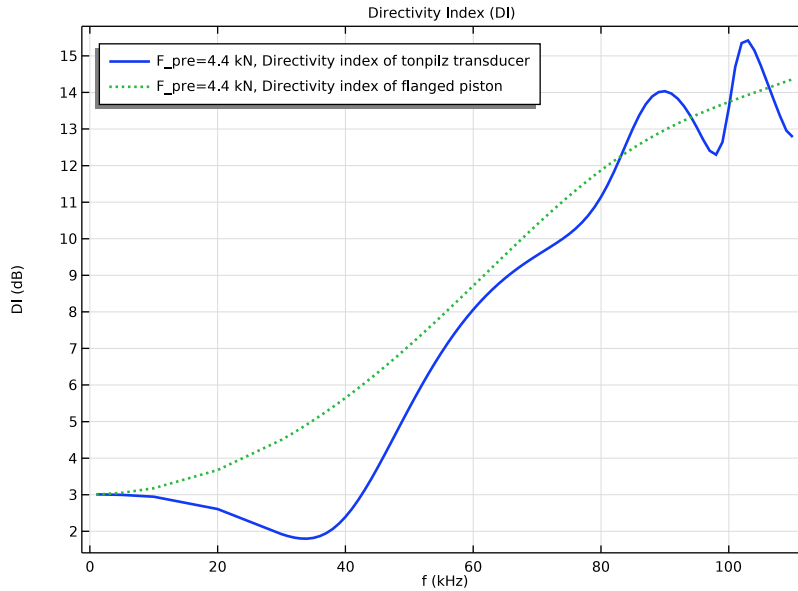

Figure 11: Frequency response of the Directivity Index (DI) computed at an on-axis distance of 500 m from the head mass.
Figure 11 shows the Directivity Index (DI) of the tonpilz transducer (blue curve) and compares it with the DI of a flanged piston (green curve). The latter can be computed from analytical expression as shown in Table 2. It is defined by the variable DI_{fl_pist} . Note that the DI is very similar to that of a flanged piston for most of the frequency range.